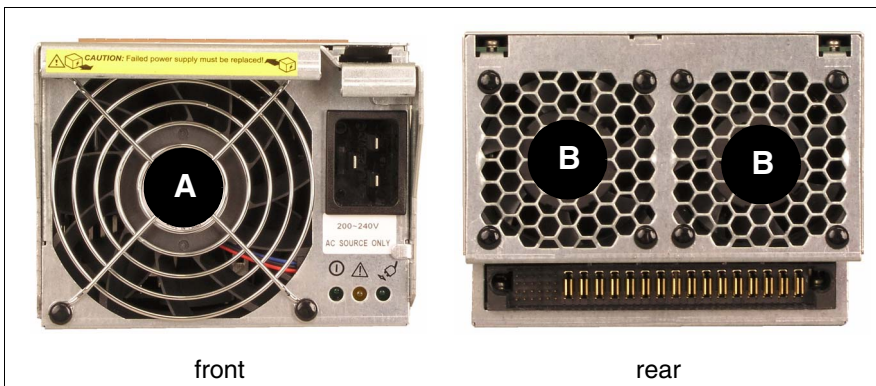

Figure 89: PSU: Fans
Each power supply unit has a large fan on the front (A) and two smaller fans on the rear (B) that provide air cooling for the system (see figure 89 below).